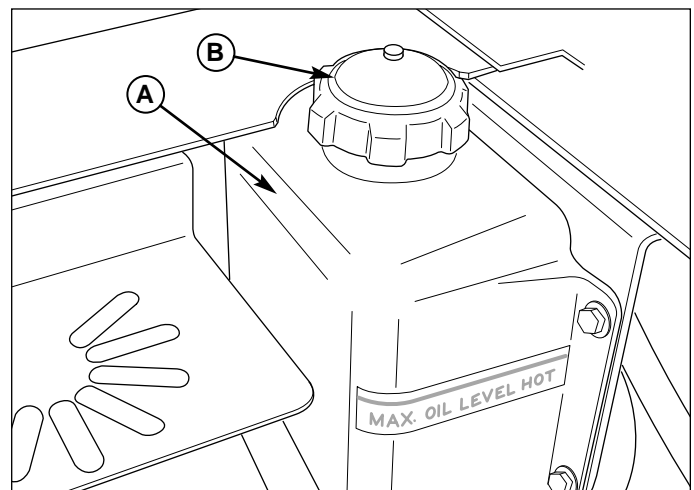

Figure 11. Checking Hydraulic Oil Level
2. Look at the hydraulic oil reservoir (A, Figure 11) and observe the oil level. When cold, the oil level should be approximately 1/2" below the MAX. HOT OIL LEVEL line. The oil level should never be above the MAX. HOT OIL LEVEL line.
3. If necessary, remove the reservoir cap (B, Figure 11) and add either Mobil 1, 15W-50 synthetic oil or Castrol Syntec 5W-50 oil. **DO NOT** use conventional oils. Make sure area around the fill neck of the reservoir is free of dust, dirt, or other debris.